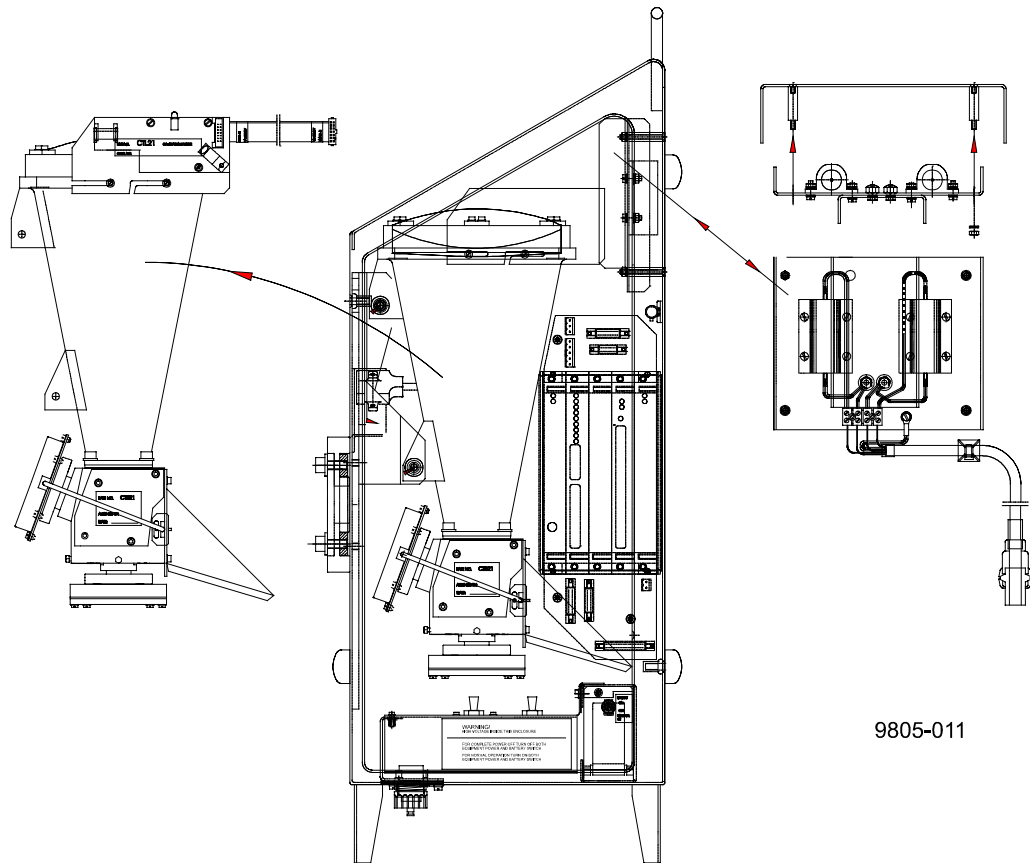

Figure 8-9 Internal heater replacement
2. Take a good hold on the CTB22 Optical Subassembly from the black part with one hand. Do not touch the transmitter, receiver or the black cone on the opposite side of the receiver. Open the two screws shown in Figure 8-9 using a 6 mm hex key with the other hand.